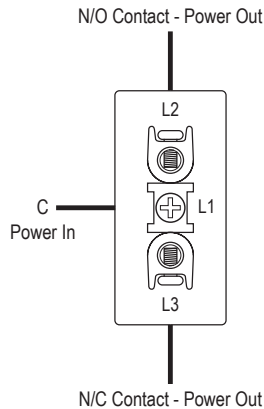

Fig. 2
3. Connect wires under appropriate terminals (Fig. 2).